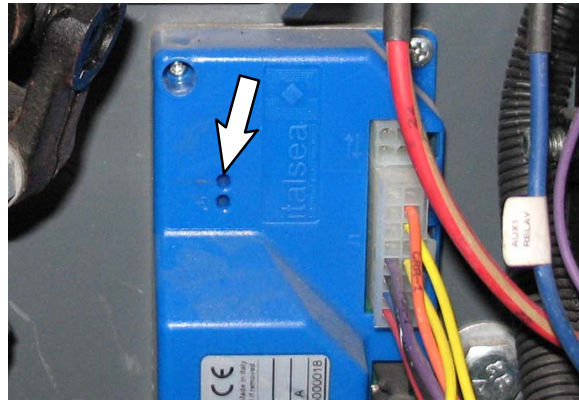

FIG. 17
44. **Calibration:** Quickly squeeze / activate the switch (16) lever four times within 3 seconds. The power steering controller (14) LED will illuminate each time the snap switch lever is squeezed. The LED will remain illuminated for 2 seconds the fourth time the snap switch lever is squeezed to show the sequence is completed. (Fig. 17)